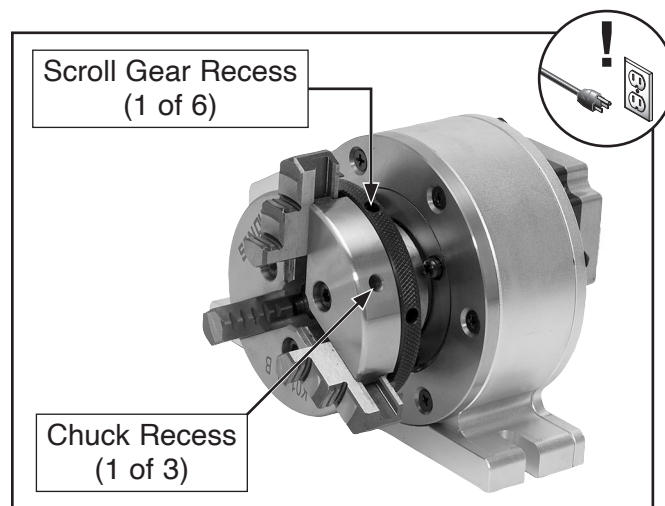

Figure 17. Location of rotary table recesses.
2. Insert (1) chuck key into scroll gear recess on flange, and (1) chuck key into chuck recess (see **Figure 17**).